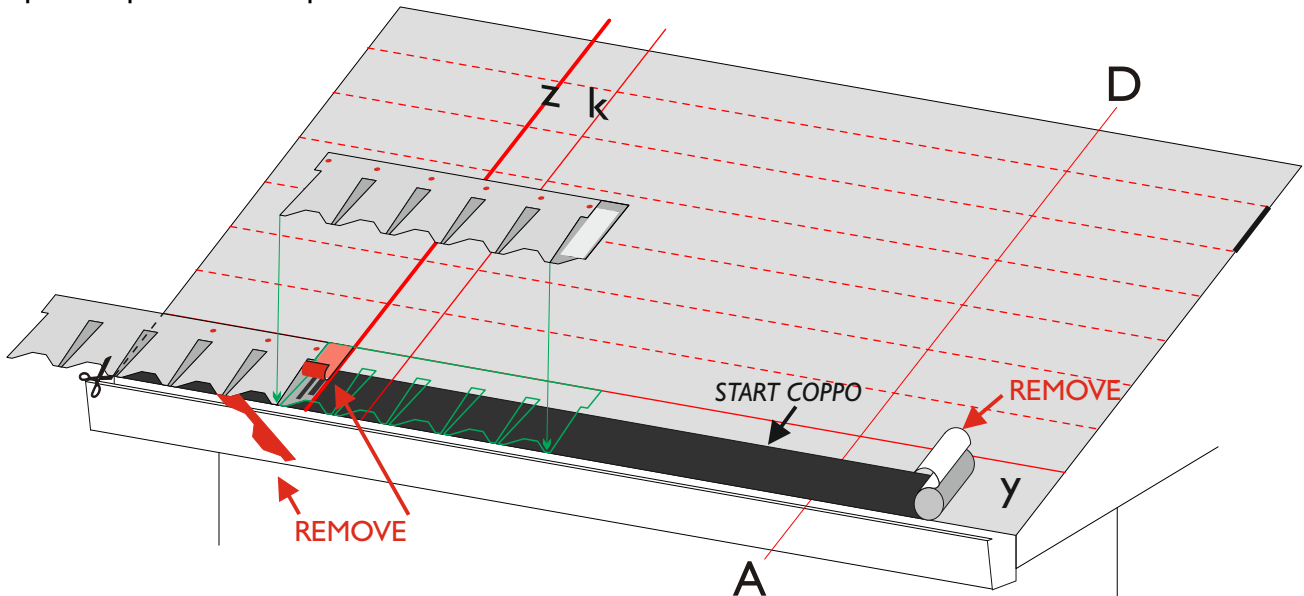

Fig.2 – Start Coppo and 1° course of Master Coppo shingle.
- Along the eaves apply Start Coppo self-adhesive membrane (Fig.2).
- The installation of the first row of shingles begins aligning the shingle to the line z (Fig.2).
- (1) Trim the excess part, remove the lower protection of the shingle nail into position (Fig.2)
- (2) Remove the upper protection from the shingle and apply another Master Coppo shingle on the right side, overlapping the previous one (Fig.2)